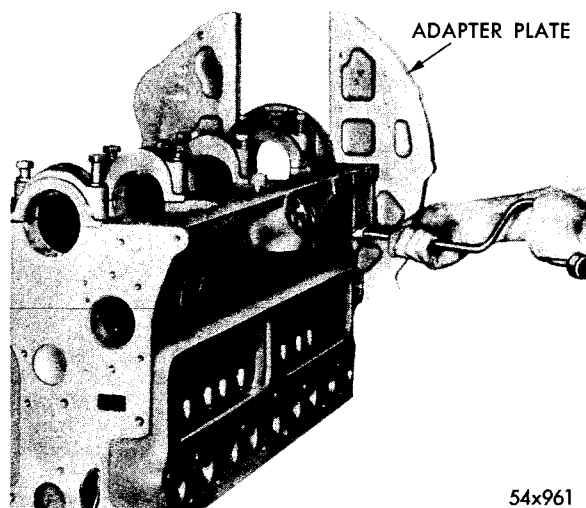

Fig. 32—Installing the Adapter Plate on Engine Cylinder Block
- (1) Install the Torque Converter adapter plate on the rear of the engine cylinder block, and tighten to 30 foot-pounds torque, as shown in Figure 32.
- (2) Install the adapter plate side brackets on the rear of the adapter plate and the cylin-